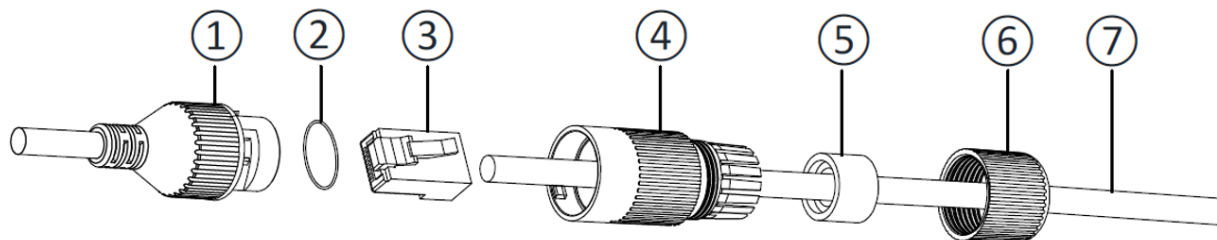
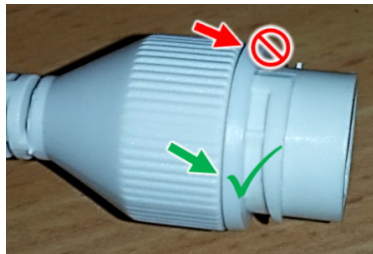

Figure 9. Assembling the Waterproof Cap
Figure 10. Seating the O-type Gasket
2. Seat the O-type gasket (2) onto the end of the camera's network interface socket (1) (see Figure 9). Ensure that the gasket lies flat on the socket, without gaps or twists (see Figure 10).